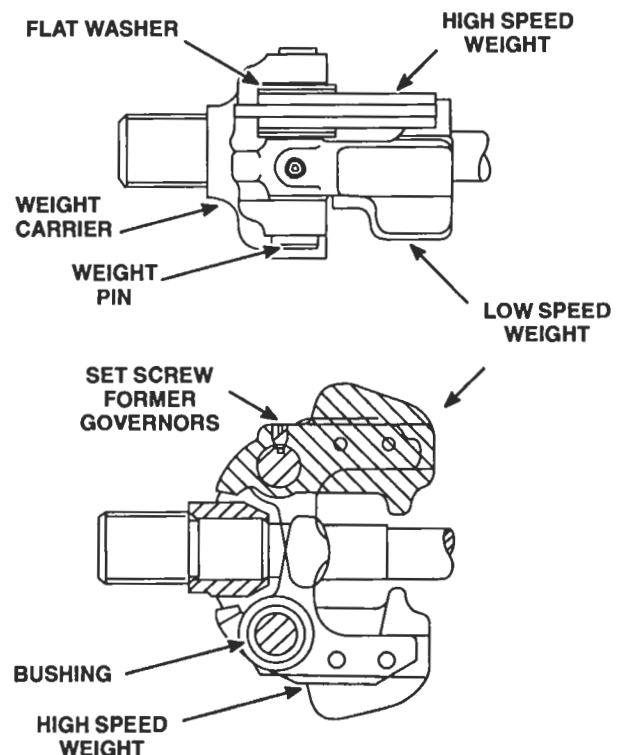

Figure 9. Cross Section of Double Weight Governor
- g. If removal of the weights from the carrier is necessary on the current double weight governors, refer to (Figure 9.) and remove the retainers from the weight pin. Press the pin from the low speed weights. The high speed weight is not a press fit.